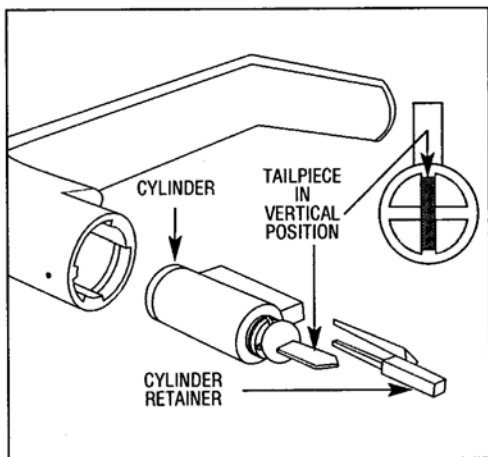

FIG. 20: STANDARD CYLINDER-LEVER, TAILPIECE AND RETAINER.
3. With key in cylinder untouched (still at 45 degrees clockwise), position lever on spindle and press until lever catch engages. Remove key and test lever for proper engagement by turning and pulling. For IC models, see Fig. 20.
- a. Install the tailpiece, cylinder retainer and cylinder into the standard lever as shown in Fig. 20.